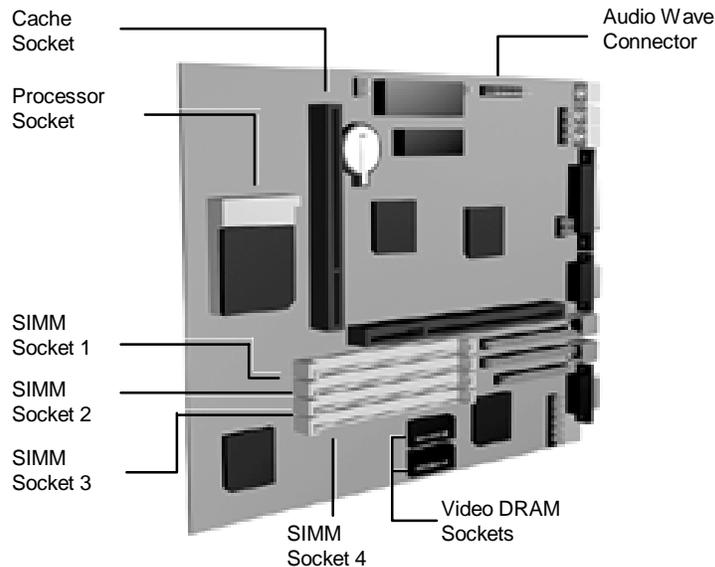

Figure 3-8 System Board Upgrade Sockets and Connectors
1. Locate the four SIMM sockets on the system board (see Figure 3-8).
2. Locate the SIMM sockets (see Figure 3-8).
2. Locate the video DRAM sockets (see Figure 3-8).
2. Locate the processor socket (see Figure 3-8).